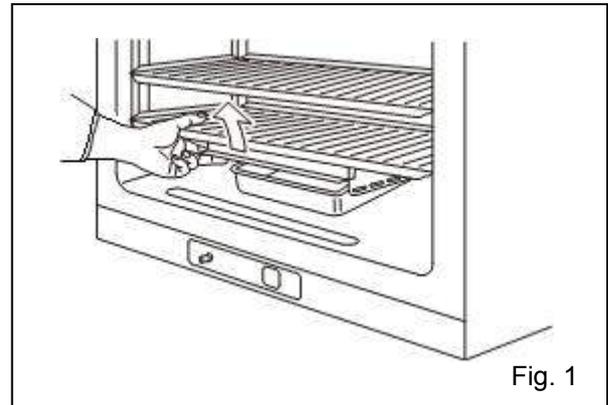

Fig. 1
2. Clean the removed inner attachments, chamber inside walls and inner door gaskets with a cloth or sponge soaked in neutral detergent, diluted by 5 % or less. (Undiluted detergent can damage the plastic components. For the dilution, refer to the instruction of the detergent.) (Fig. 1)
2. Open the outer and inner doors and pull out the trays. (Fig. 1)
2. When installing the fan, insert it to the motor shaft securely. Lightly turn the fan manually to make sure that it does not strike the rear panel. Then put on the central spring.(Fig.1)
1. Lift the humidifying pan cover. (Fig. 1)